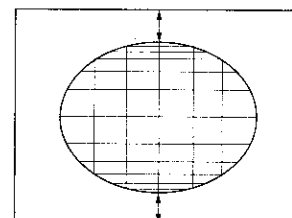

fig. 9
- Adjust the S-correction to obtain a balance between upper, lower and center (fig. 9).